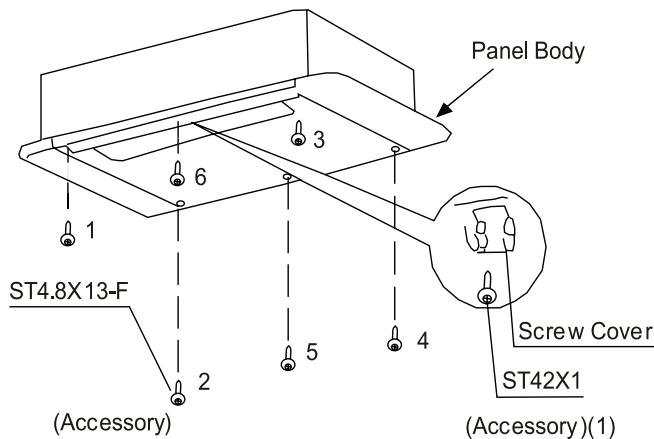

Fig.4
2) AS shown in Fig.4, install the panel body, and then tighten the screws according to the sequences in the figures.